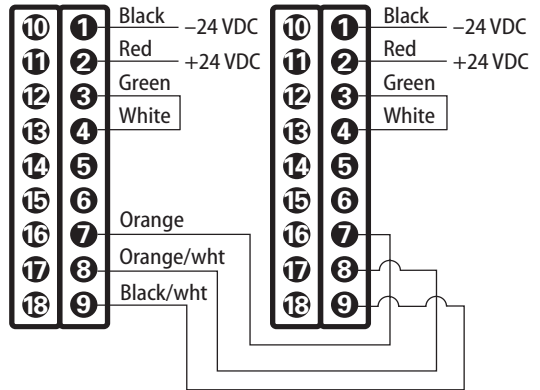

Figure 8 Two DE networked devices with fire alarm
- 1 Connect the ORANGE wire of one DE device to the ORANGE wire of another DE device as shown in Figure 8.
- 3 Connect the BLACK/WHITE wire of one DE device to the BLACK/WHITE wire of another DE device as shown in Figure 8.